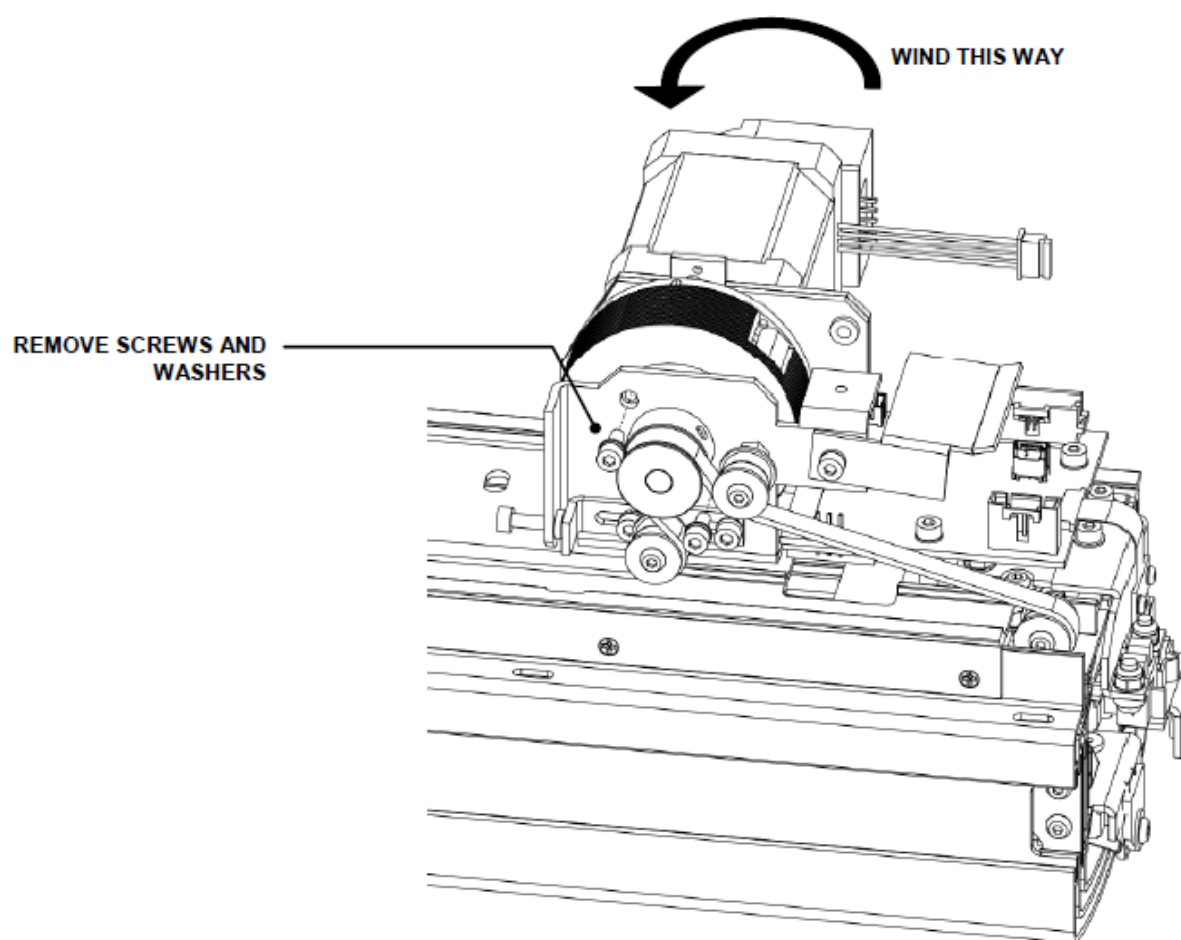

Figure Z-16: Rewinding the Spring
9. Wind the spring housing in the direction shown a total of 5 complete revolutions (Figure Z-16). Note that it will get progressively more difficult to wind as the tension increases.